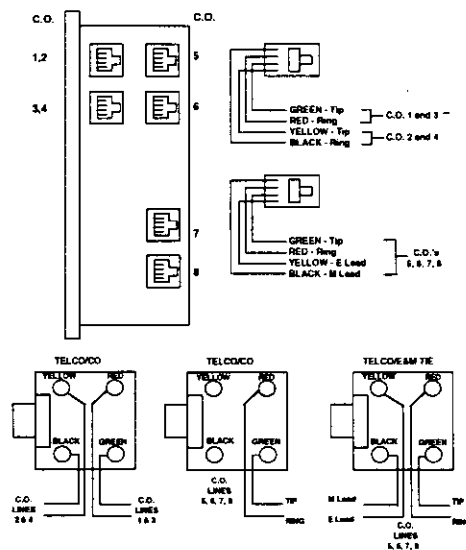

FIGURE 11
Assure that the central office lines have been installed on the backboard. These lines will be connected to the KSU with modular cords supplied with the KSU. Follow the diagram on Figure 11.
2. Connect the other end to the outside lines through the connecting block according to Figure 11.
2. Connect the other end to outside line through the connecting block according to Figure 11.